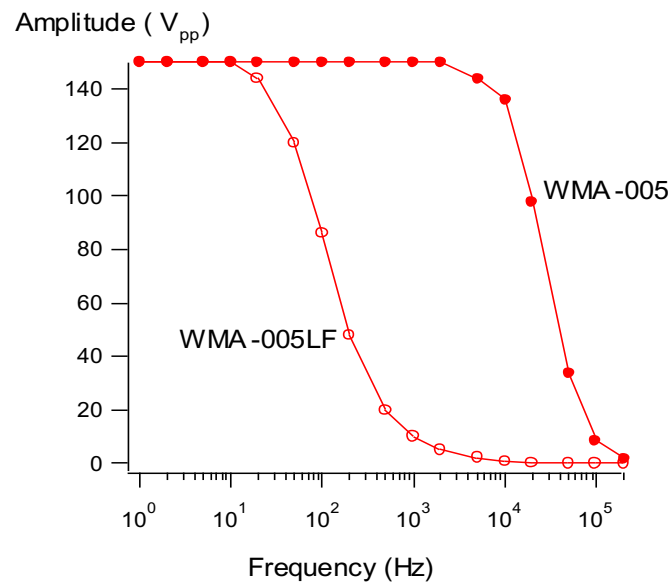

Figure 2. Frequency response at 250Vpp output voltage
- Frequency response (Fig. 2, 3)